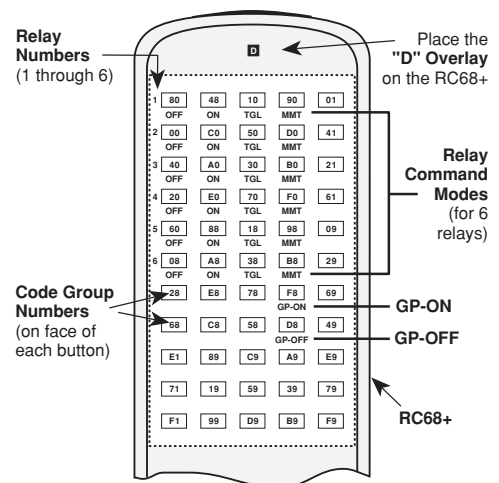

Fig. 2 RC68+ Programmer
The RC68+ Programmer (available separately) contains all commands necessary to operate the CC62 (see Fig. 2).
## APPLICABLE RC68+ BUTTON DESCRIPTIONS (With the "D" Overlay. Refer to Fig. 2)
1. Be sure each is set to a different IR Code Group to prevent mutual interaction. Refer to **Fig. 2** and the **RC68+ Programmer Instructions** for Code Group setting procedures.